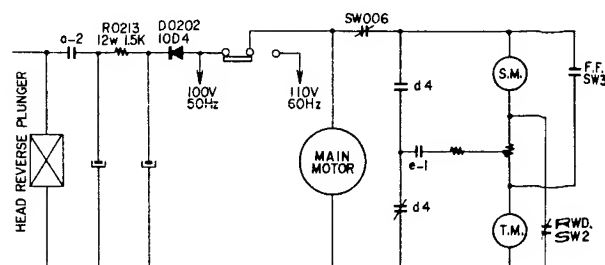

Fig. 8
When Fast Forward/Rewind Lever is set to "RWD", Lever Spring "G" turns on SW006 Operation Switch (Micro Sw) and Brake Levers (E) (E') free Brake. Further SW-2 (Slide Switch) is turned "on", a 100V current is supplied to the Supply Motor and the Supply Motor rotates. (Refer to Fig. 8).